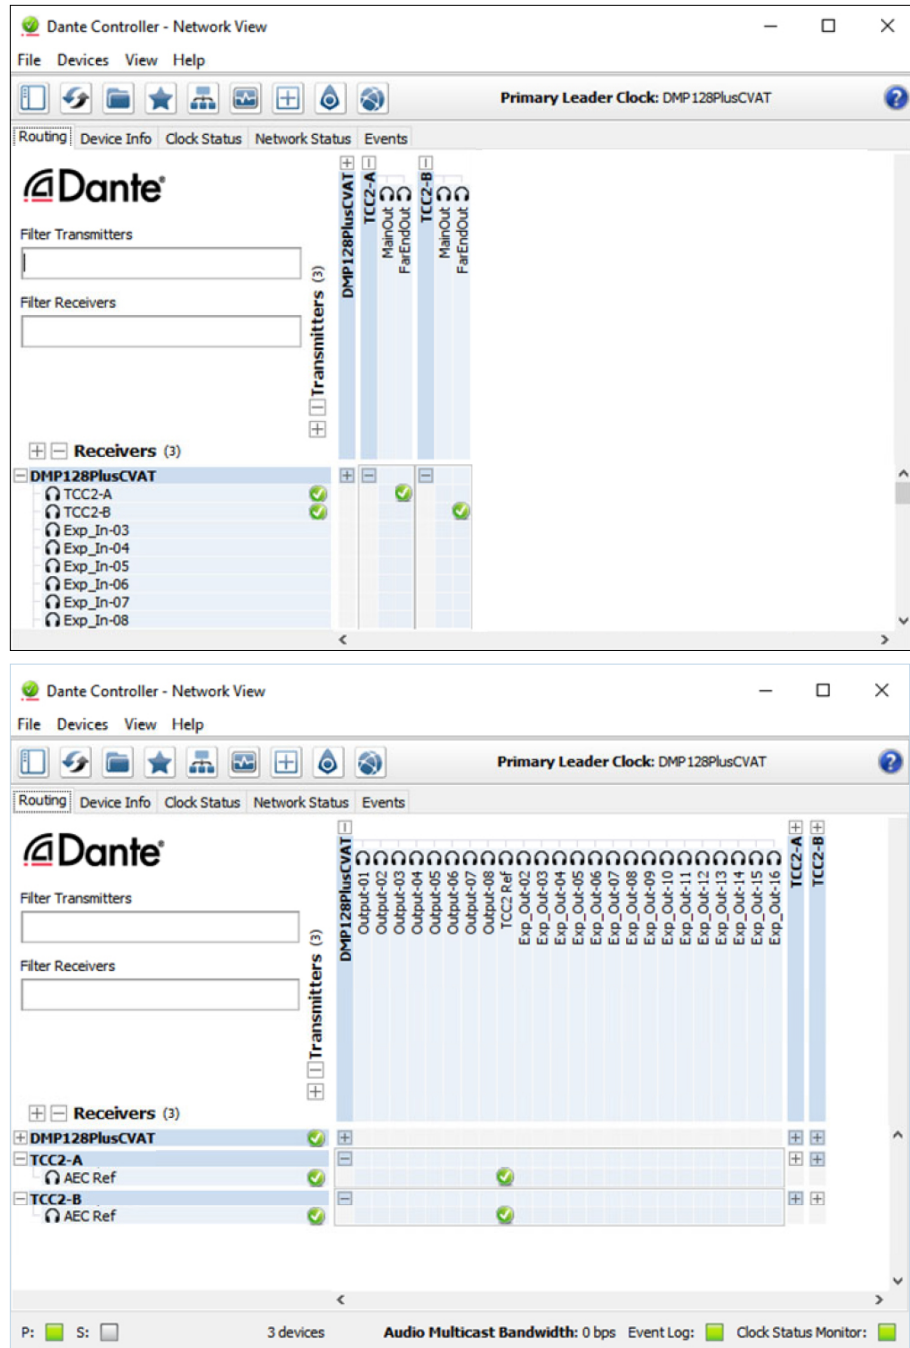

Figure 13. Network View Routing Screens
- To show the transmitters of a Dante device, click the **+** box next to the desired device in the **Dante Transmitters** panel, such as TCC2-A (see **figure 13** on page 8). The **+** sign changes to a **-** sign when the device expands.